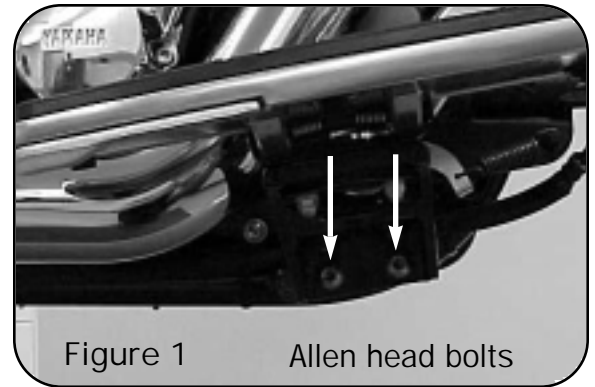

Figure 1 Allen head bolts
2. Loosen right side floorboard assembly held in place by two bolts (Figure 1).